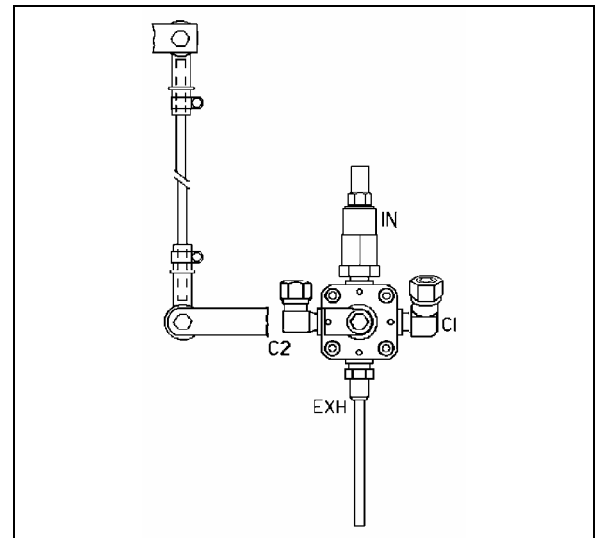

FIGURE 26: FRONT HEIGHT CONTROL VALVE 16100
2. Loosen the clamp on the height control valve rubber coupling and bring it up or down (Fig. 26).